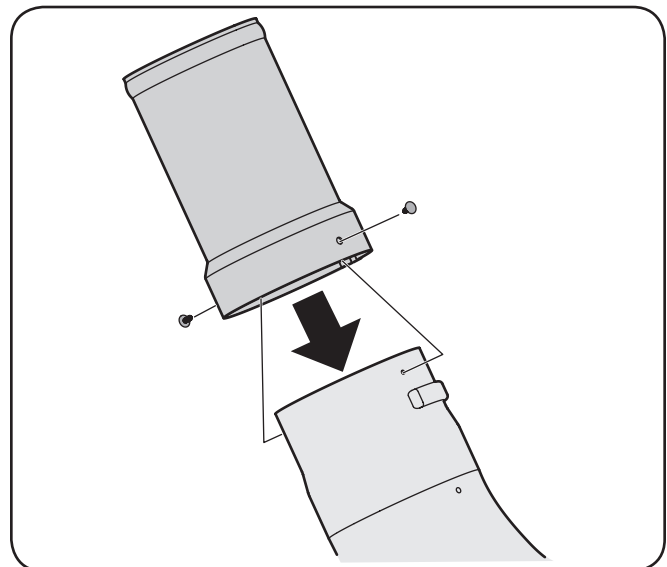

Figure 4-22
7. Install the chute adapter onto the chute elbow by lining up the tabs and sliding the adapter over the chute elbow, as in Figure 4-22. Secure the chute adapter by installing the two 726-3046 ratchet clips, included in hardware pack 689-00329, into the holes provided.